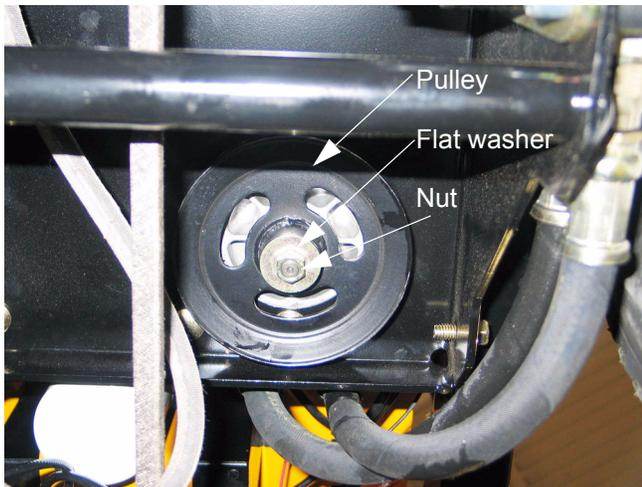

Figure 25.4
- 25.4. Remove the nut and flat washer that secure the pulley to the input shaft that extends out the bottom of the pump using a 9/16" wrench. See Figure 25.4.